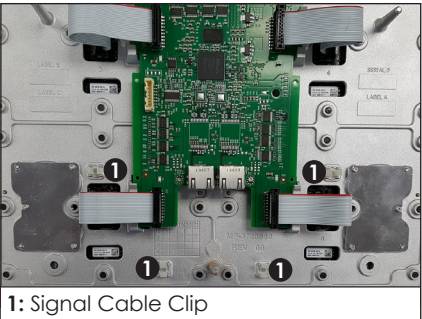

Figure 41: Clip Locations
2. Insert the signal cable into the logic card and then attach the cable into the clips on the rear of the module. Refer to **Figure 41**.
5. Connect the appropriate signal cables to the corresponding jacks on the rear of the module and push the signal cables into the clips on the rear of the module. Refer to the contract-specific Signal Interconnect Drawing and **Figure 41**.